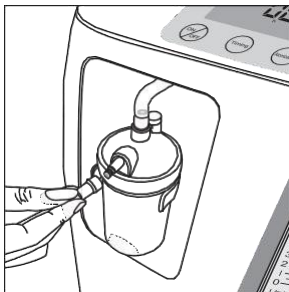

Figure 5
C. Connect your cannula to the humidifier bottle,as shown in the Figure 5.